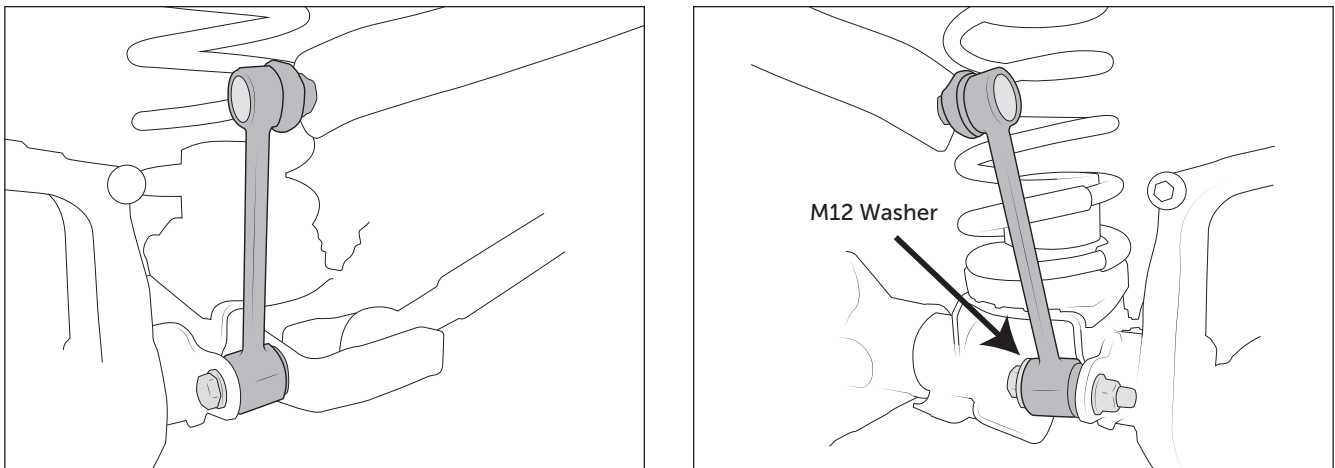

Figure 16
13. Install AEV end links (fig. 16). Add the supplied M12 flat washer to the open side (toward vehicle center) of the driver-side, axle end mount.